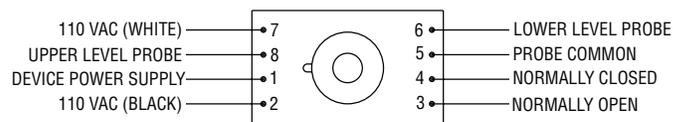

FIGURE 2
2. Attach the black lead between the common probe terminal and terminal five (5) on the socket mount. See figure 2.
3. Attach the white lead between the lower level probe terminal and terminal (6) on the socket mount.
4. Attach the red lead between the upper level probe terminal and terminal eight (8) on the socket mount.
2. Connect the device power supply to terminal 1. (The device power supply is the voltage required by the device (pump, valve, etc.) being turned in or off. This voltage can be either AC or DC Volts and up to 220 VAC max.) See figures 2 and 3.
2. Connect the device power supply to terminal 1. (The device power supply is the voltage required by the device (pump, valve, etc.) being turned in or off. This voltage can be either AC or DC Volts and up to 220 VAC max.) See figures 2 and 4.